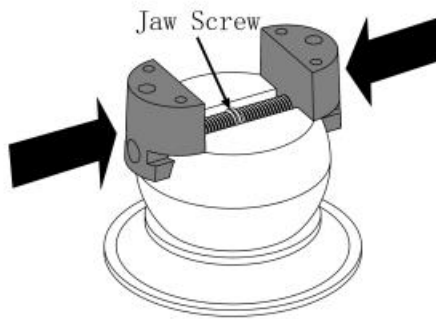

FIG. 1
1. You must start the jaw threads at the same time when replacing them(FIG. 1). Hold each jaw in position and turn the jaw screw to close them. Either a large rubber band or a second person is useful to help turn the jaw screw while you hold the jaws against the thread. If the jaws don't meet at the same time in the center, remove them and try starting the threads at the same time again.